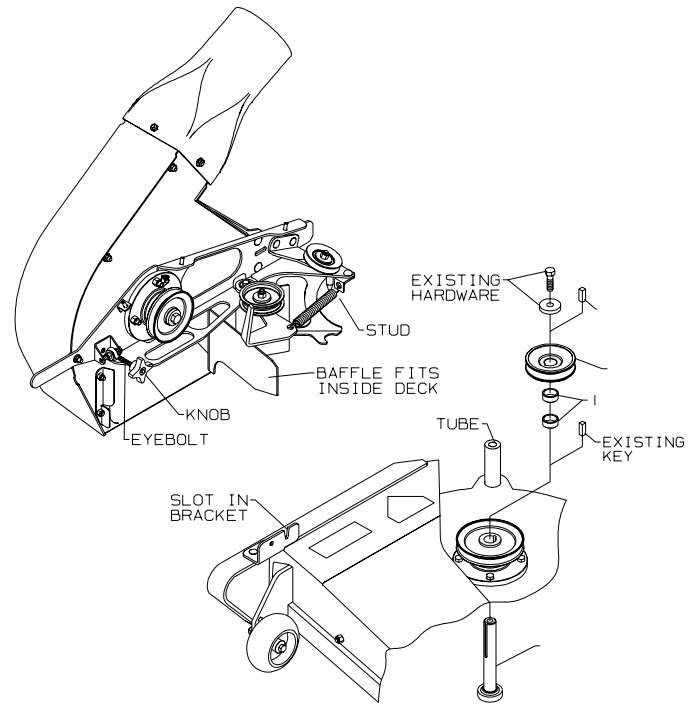

FIGURE 7
7. Attach blower housing assembly to mower deck. First, insert the stud at rear of blower housing into tube at rear of deck discharge opening. See Figure 7. Rotate blower housing around toward the front. The eyebolt at front of blower housing will nest into slot in deck bracket. Tighten with knob on eyeblot. See Figure 7.